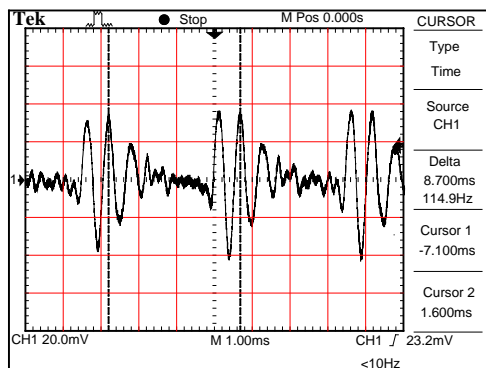

Figure 7 How to measure the fundamental period of a complex human voice waveform.
10) Now sing at as low a pitch as possible. Capture and sketch the waveform in one of the scales provided at the end of the lab. Include the oscilloscope settings and mark the period of you voice on your sketch. If the waveform is not sinusoidal, the "fundamental" frequency is based on the time it takes the waveform to repeat itself. See the example in Figure 7. Make sure you show this on your sketch. Use the cursor and measure menus to find the lowest fundamental frequency at which you can sing. Record the values from both methods.